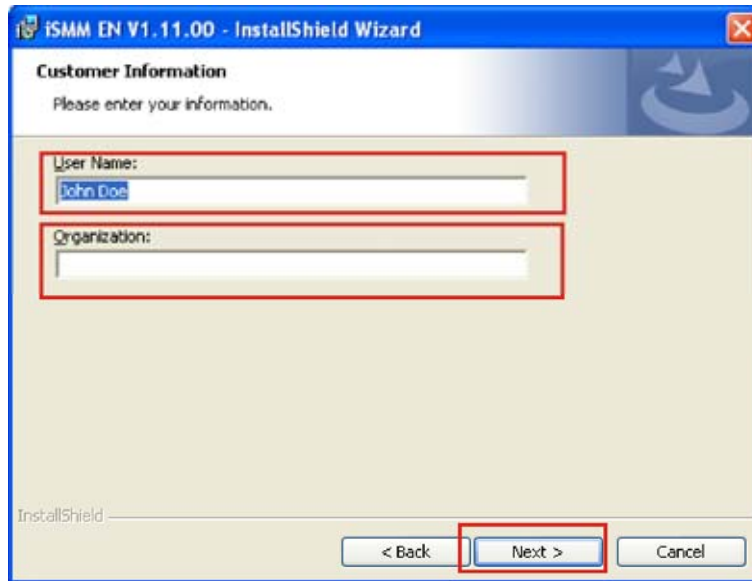

Figure 7-33: iSMN Customer Information
Step 75: The **Customer Information** screen appears.(**Figure 7-33**)
Step 76: Fill in the “User Name” and “Organization” fields, which will be automatically filled with the settings for the current user.(**Figure 7-33**)
Step 77: Click **Next** to continue.(**Figure 7-33**)